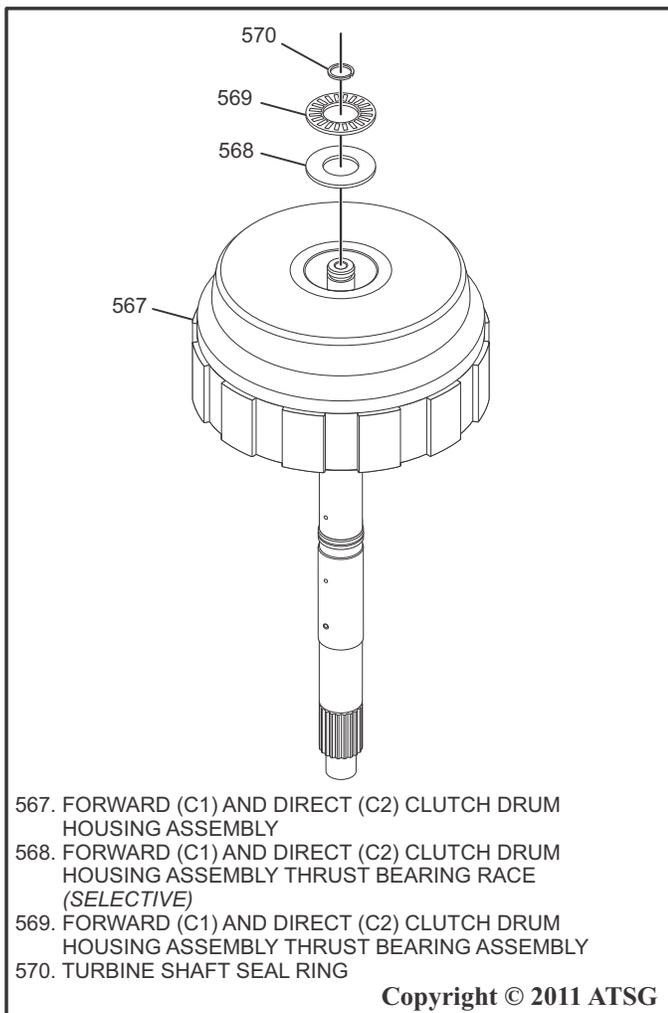

Figure 125
22. Install the Forward (C1) and Direct (C2) Thrust Bearing Race, and Thrust Bearing into the drum and retain with a small amount of Trans-Jel®, then install a new Turbine Shaft Seal Ring and coat with a small amount of Trans-Jel® as shown in Figure 125.